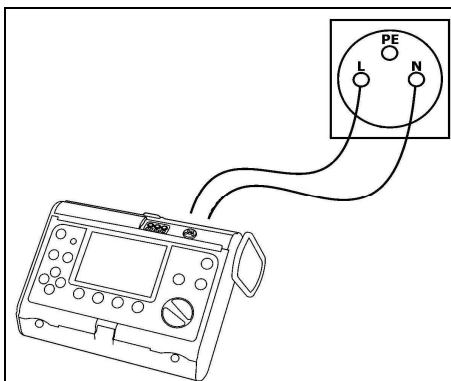

Figure 18. Connection of the meter.
- connect the meter with cables to the network socket in the board in accordance with Figure 18,